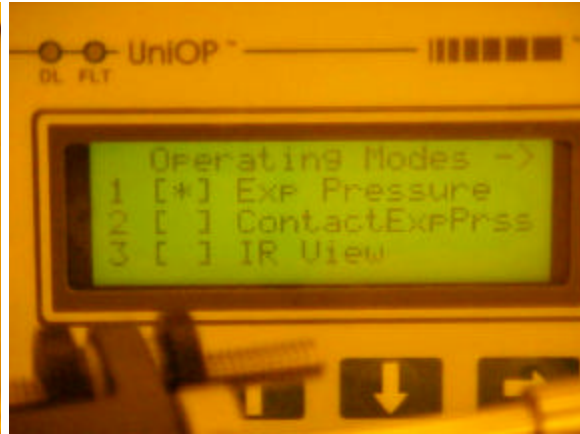

Figure 8. Operating Modes Screen
7. Press “3” (Fig. 6) for “OP (operating) Modes”. Make sure “Exp Pressure” is selected (Fig. 8). If selected, it shows “*” in the square bracket. If not, press “1” to select the “Exp